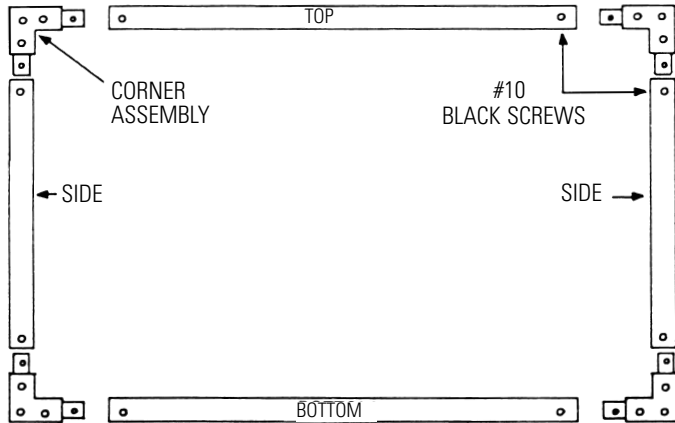

FIGURE 1. REAR VIEW
2. Assemble the corners to the top and bottom frame members using #10 black screws. Take care to observe the color code on the parts. Assemble the remaining side frame members on the left and right sides using the #10 black screws. See figure 1.